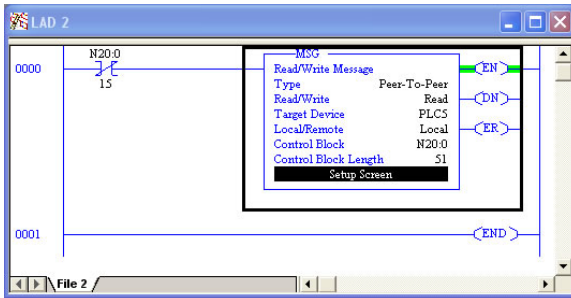

Figure 115: Completed PLC Program
7) The program is now complete. Refer to Figure 115.